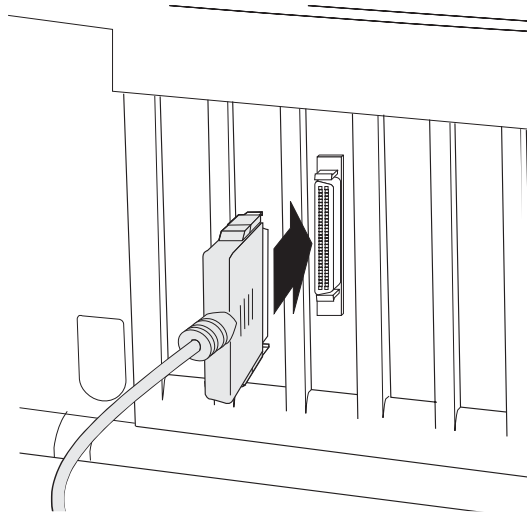

Figure 2-6. Attaching an External Cable to the External SCSI Connector
- 2 Attach one end of the 68-pin cable to the 68-pin Ultra Wide external SCSI connector on the adapter (shown in Figure 2-6.)